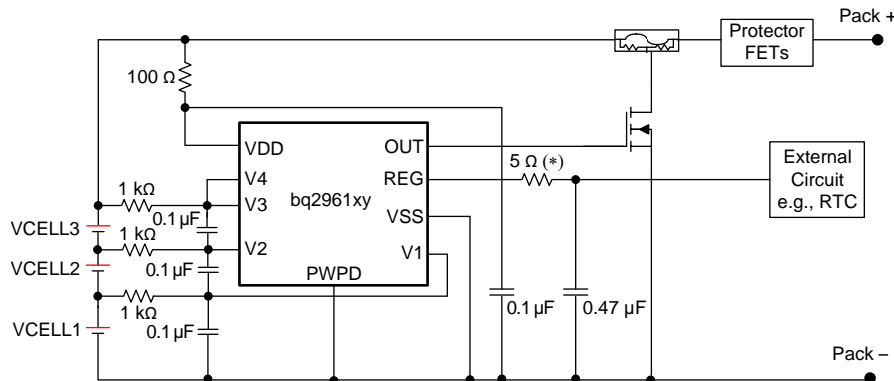
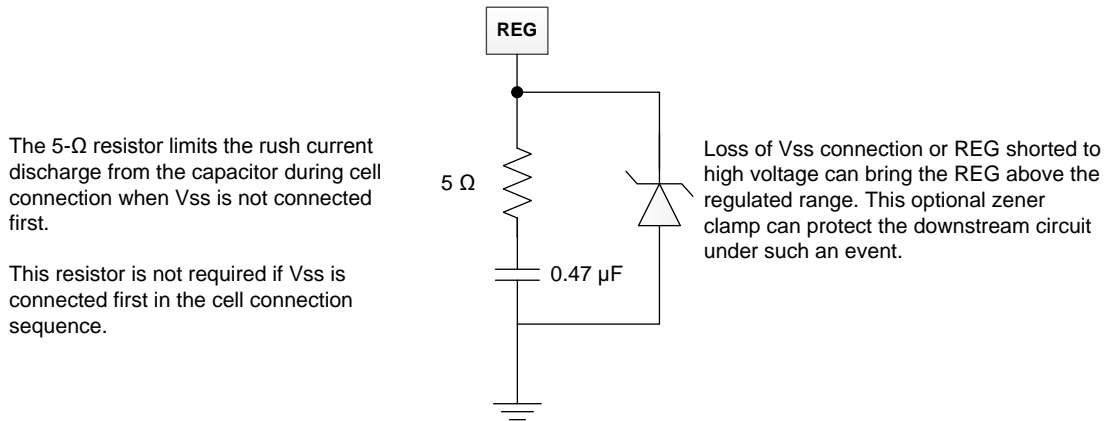

Figure 17. 3-Series bq2961xy Schematic
Figure 18. 5-V Zener Diode
1. If VSS pin cannot be connected first, it is required to add a resistor of a minimum of 5 ohms to a maximum of 10 ohms (a 5-ohm resistor is used in the reference schematic, Figure 17) in series with the REG capacitor. When VSS is floating, the REG capacitor always charges up to the VDD voltage. When VSS is finally connected, the REG capacitor will be discharged. Adding a small resistor in series reduces the current strength and avoids any potential damage to the REG pin. The 5-ohm resistor can be placed in series with the REG connect circuit (as shown in Figure 17) or in series of the REG capacitor (as shown in Figure 18). Placing the resistor in series with the REG circuit results in a small drop of VREG (for example: max loading of 1 mA with a 5-ohm resistor will drop 5 mV on VREG), but such a connection can protect against rush current discharge from both REG capacitor or external filter capacitor connected to the REG pin. Placing the resistor in series with the REG capacitor is an alternative to avoid additional drop in VREG if the filter capacitor used by the external circuit is much smaller than the REG capacitor.
3. Cell should be connected to the lower V_n pin; the unused V_n pin should be shorted to the (V_{n-1}) pin. See Figure 17 for details.
4. A zener diode can be added to the REG pin to VSS as shown in Figure 18. This is recommended to protect the circuit connected to the REG pin if floating VSS in the field is a risk concern. When VSS is floating (during cell connection when VSS is not connected first or in system fault with BAT- wire broken), the REG voltage always pulls up to VDD. In a 4-S configuration, the REG voltage can reach approximately 16 V with VSS floating. Adding a zener diode clamps the REG voltage to a safe level for the external circuits connected to the REG pin. Having the zener diode can also protect the external circuits if REG pin is shorted to OUT pin or any other high-voltage output terminal. If a zener diode is used, it is recommended to put the diode on the battery side with the bq296xxx device to allow protection on both the REG pin as well as the circuit connected to REG under floating VSS condition. The resistor in series with the REG pin is not required in this case.